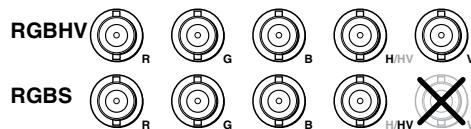

Figure 2-3 — Video output connection format
- ② **RGB Pass-through connectors** — Connect a high resolution or computer input (VGA, SVGA, XGA, SXGA, or UXGA) to these female, BNC connectors.
- ③ **Output connectors** — Connect an RGB video display or other device to these female BNC connectors. Figure 2-3 shows how to connect the RGB video format for each configuration.